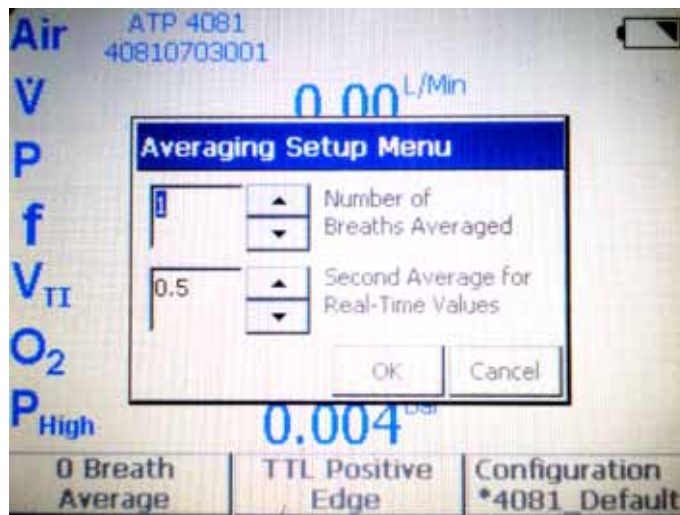

Figure 8-5: Averaging Setup Menu
2. Use the up or down direction arrows to select **1** for Number of Breaths Averaged and **0.5** for Second average for Real-Time Values (refer to Figure 8-5).
3. When the appropriate parameters are selected, touch **OK** (refer to Figure 8-5).